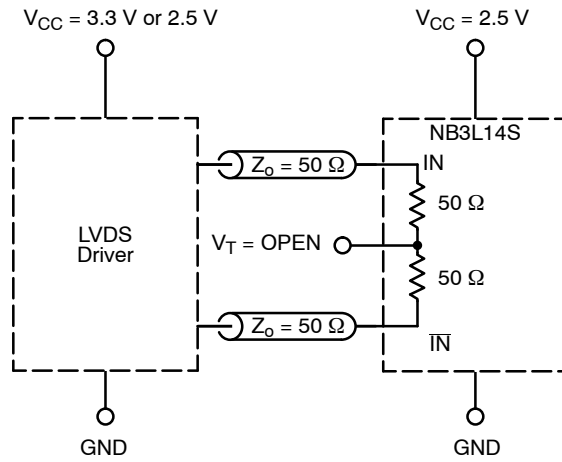

Figure 4. LVDS Interface
**DIFFERENTIAL INPUTS DRIVEN DIFFERENTIALLY** (Figures 4, 8, and 9) (Note 5)